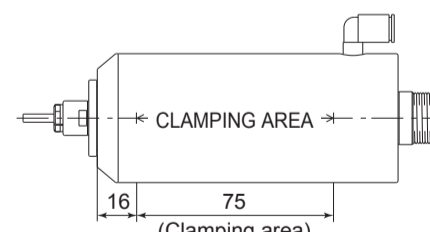

Fig. 6
- When mounting a Spindle, refer to the Clamping Area etched on the Spindle (Fig. 6).